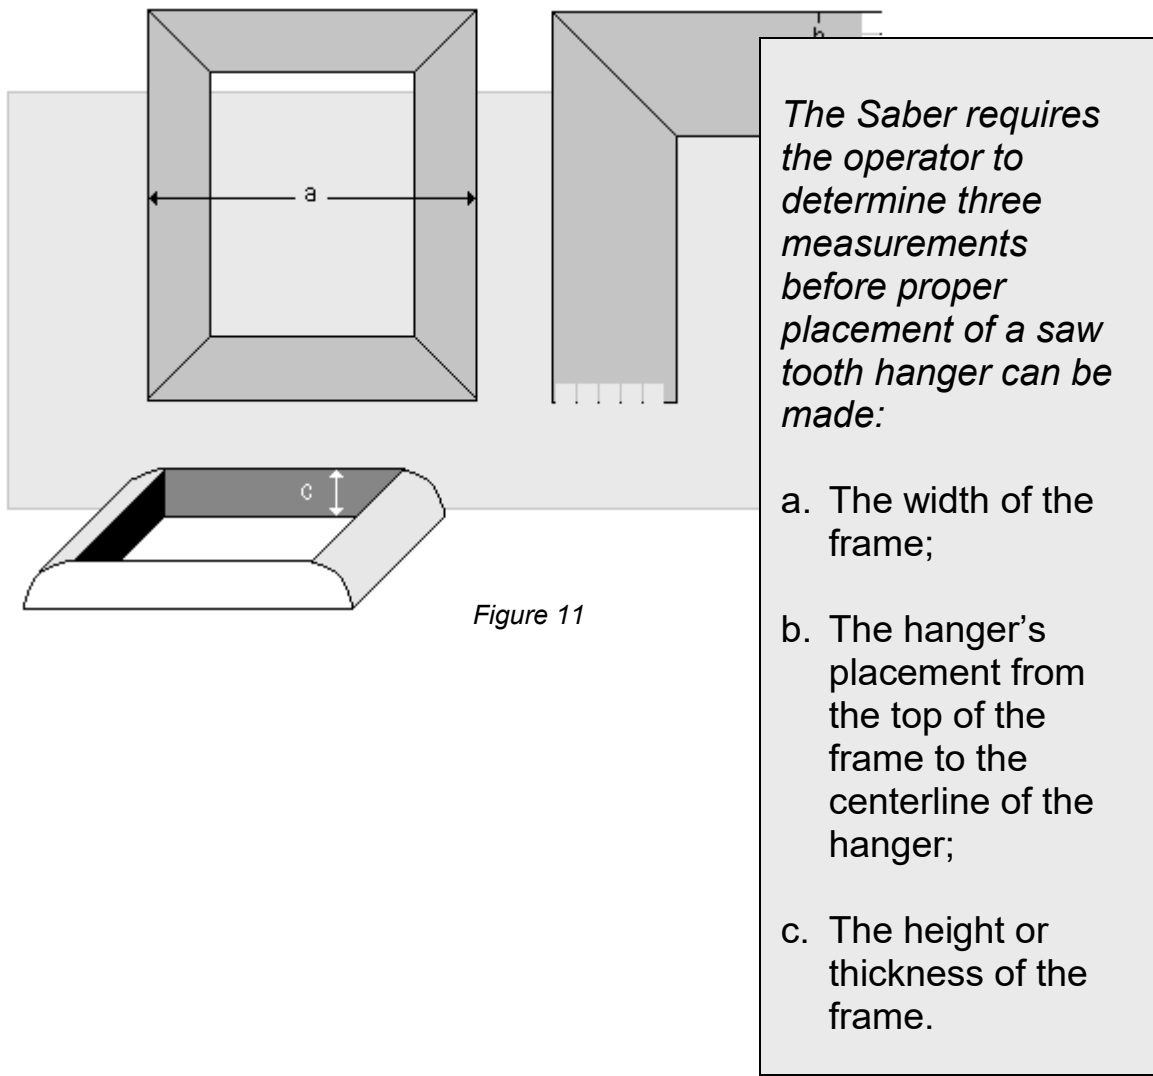

Figure 11
- i. Measure the width from outside the left edge to outside the right edge of the frame. (measurement “a” in Figure 11)
- i. Measure or approximate the distance between the top edge of the frame and the point at which you wish to insert the hanger. (measurement “b” in Figure 11)
- i. With the frame laying flat on a surface, determine its height at its thickest cross-section. (measurement “c” in Figure 11)
- vi. The Carriage will lock into any one of six (6) pre-set positions that correspond to a range of heights.